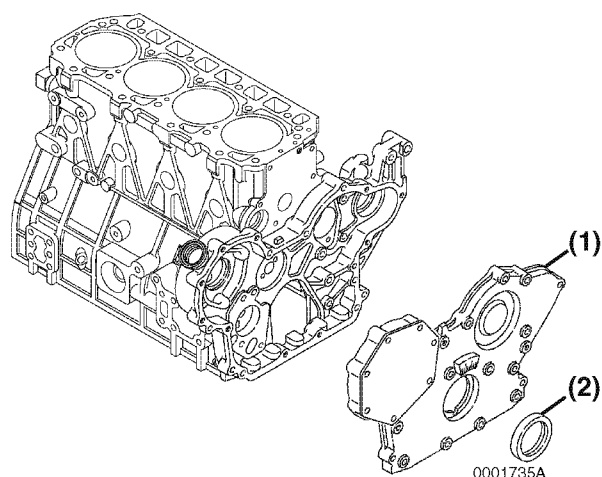

Figure 6-40
3. Remove the gear case cover (**Figure 6-40, (1)**).
- If necessary, remove the seal (**Figure 6-40, (2)**) from the cover.